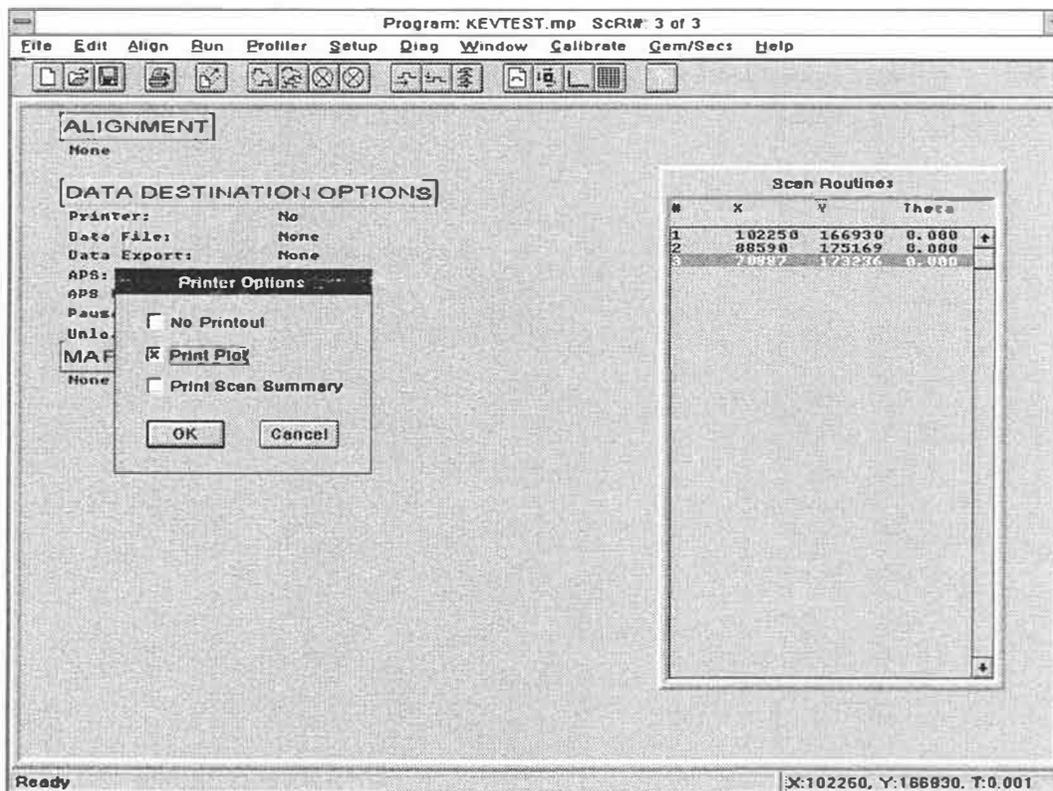

Figure 5-8. Printer Data Destination Option
1. Click-on the printer data destination option and three printer options will be displayed: no, print plot, and print plot summary (see Figure 5-8). If "No" is selected, a printout will not be produced. If "Print Plot" is selected, the plotted profile trace along with the profile data will be printed out on the DEKTAK V 200-Si thermal printer. If "Print Plot Summary" is selected, a printout will be produced of a summary of the scan data only.